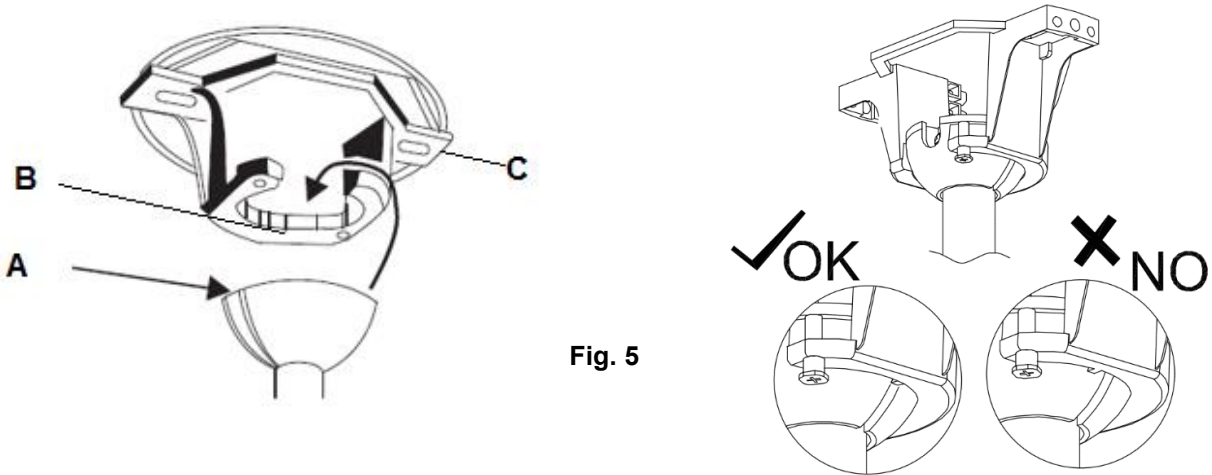

Fig. 5
Lift the fan assembly onto the mounting bracket. Ensure the key slot (A) of the hanger ball is positioned on the key pin (B) of the mounting bracket (C) to prevent the fan from rotating when in operation. (Fig.5)
Hang the fan (Refer to “hanging the fan” Fig.5).